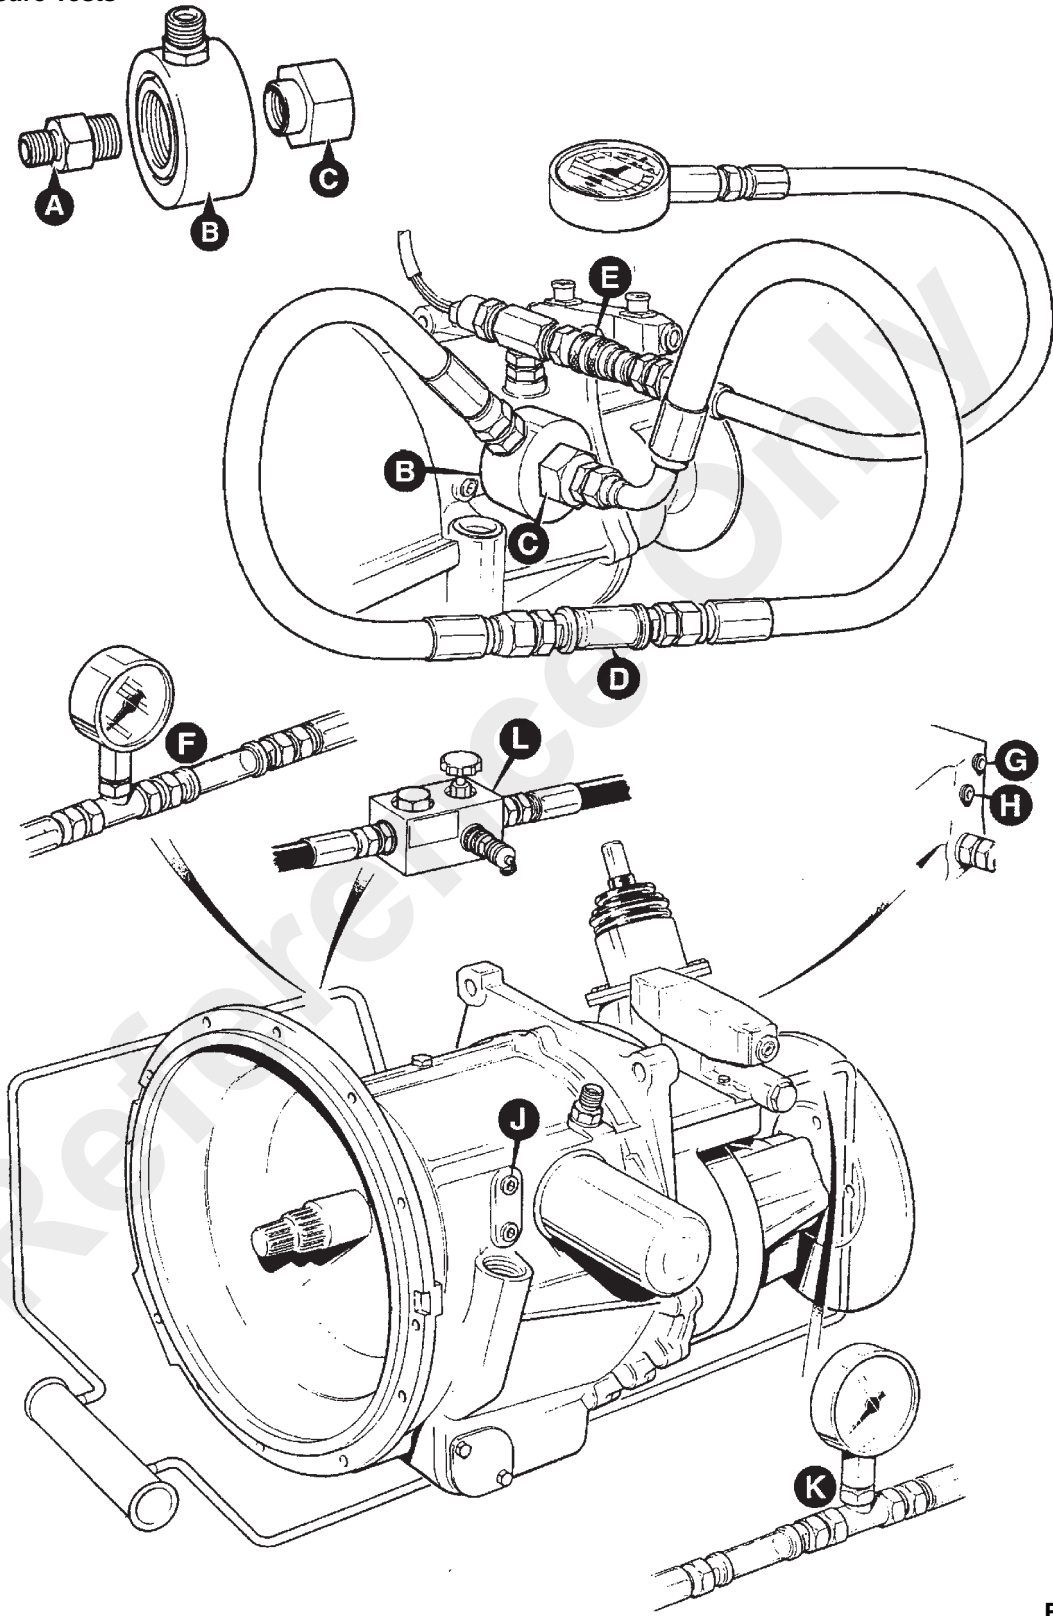

FIGURE 7-8
1. Stop the engine, remove the transmission filter and filter head adapter. Install adapter **A** (Figure 7-8) into the gear box casing. Install test adapter **B** and secure with adapter **C**. Connect a flow meter **D** as shown and connect a 0 - 2070 kPa (0 - 300 PSI) pressure gauge to test connector **E**.
7. Stop engine and connect the pressure gauge and flowmeter into the return line from the oil cooler to the transmission as shown in **K** (Figure 7-8). Start the engine, and with the transmission in Neutral check the flowmeter reading, which should show the **Cooler Flow Rate** (see *General Technical Data*, page 7-1). The pressure gauge will show the **Lubrication Pressure** (see *General Technical Data*, page 7-1). Low flow and pressure readings could indicate a blocked oil cooler.